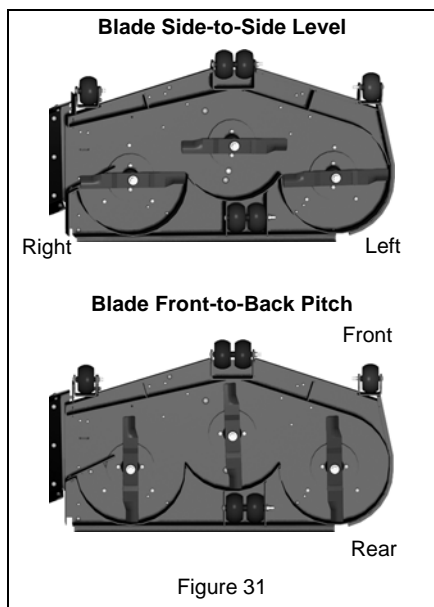
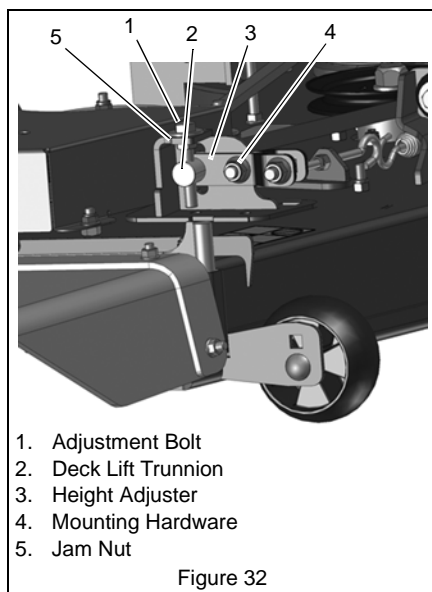

Figure 31
Figure 32
5. Measure the distance between the ground and cutting edge of the blade on the left blade (Left position in Figure 31) and on the right blade (Right position in Figure 31). Distances should be within 3/16" (4.7 mm). If they are not, raise the low side of the deck using the height adjusters on the deck lift brackets (see Figure 32).
7. Turn the blades so the blade ends point front to back as shown in Figure 31.
8. Measure the distance between the ground and the cutting edge of the middle blade at the front of the deck (Front position in Figure 31) and between the ground the cutting edge of the left and right blades at the rear of the deck (Rear position in Figure 31).
9. The cutting edge at the front of the deck (Front position in Figure 31) should be 1/8" (3.2 mm) lower than the cutting edges at the rear of the deck (Rear position in Figure 31).
10. If measurements are out of range, raise the low side of the deck using the height adjusters on the deck lift brackets (see Figure 32). Be sure to raise the deck evenly to keep the deck level side to side.
See Figure 32.